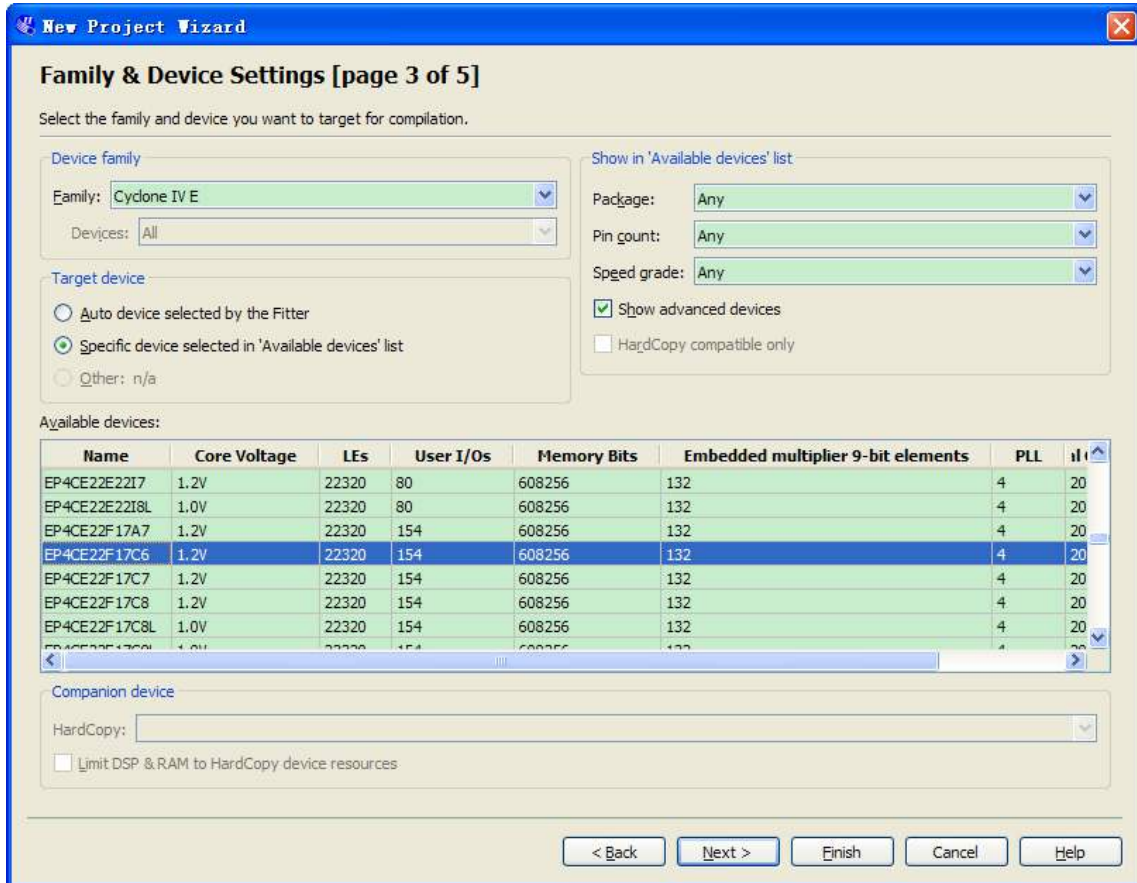

Figure 6-10 Specify the Device Example
- e. In the next dialog box, you will assign a specific FPGA device to the design. Select the **EP4CE22F17C6** device, as it is the FPGA on the DE0-Nano, as shown in **Figure 6-10**.